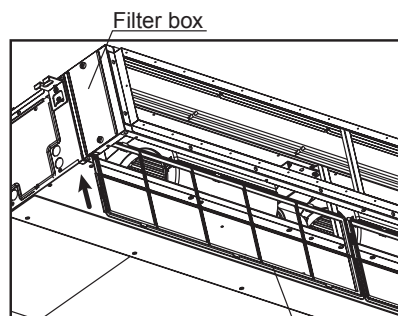

Fig.3-2-2
- (2) Insert the filter that was removed in step 3-1 above through the bottom of the filter box. (Fig. 3-2-2)